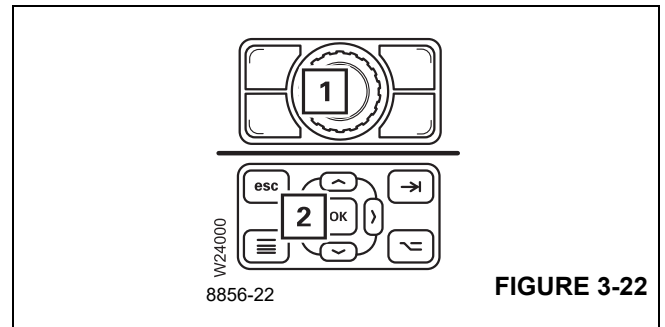

FIGURE 3-22
If the instruction given in this section is to “Press the button once...”, for instance, this always refers to the button (1), (Figure 3-22) or (2). This is the case if a menu is opened or a function is to be carried out.